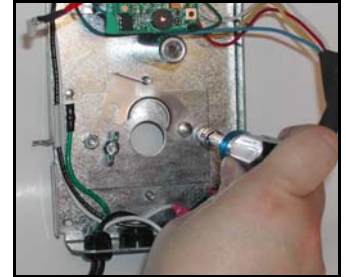

Figure 13
- ii. Install the flat bracket and secure to the unit base with the hex nuts provided. (See Figure 13)